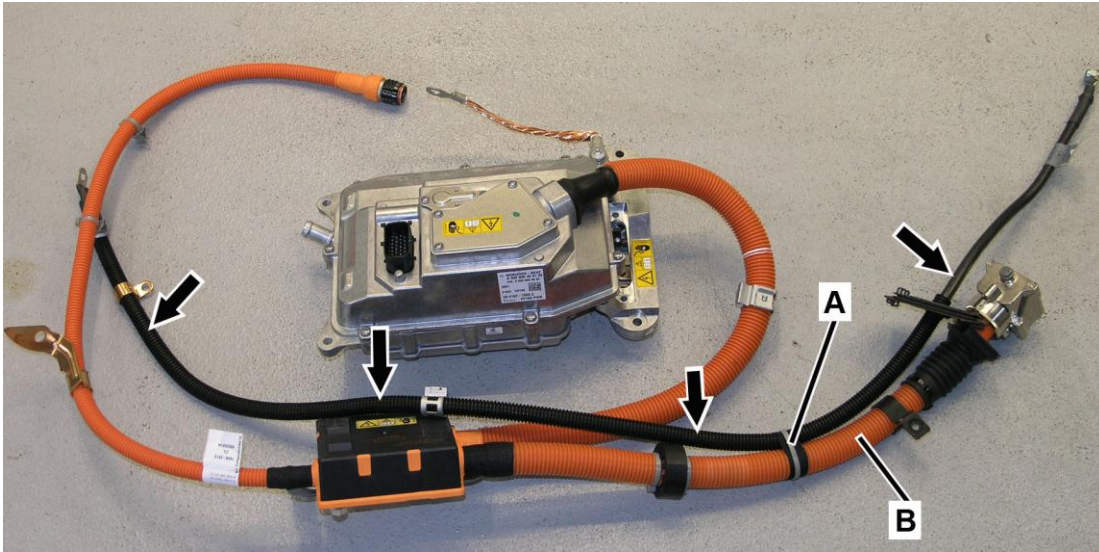

Figure 4
- Do not remove the existing alternator cable (arrows, Figure 4) from vehicle when removing power electronics module. Cut cable tie (A) to detach existing alternator cable (arrows) from old power electronics cable (B) and leave existing alternator cable (arrows) on vehicle
- Prior to installing **new** power electronics module, cut cable tie (A, Figure 4) and remove **new** alternator cable (arrows) attached to **new** power electronics module cable (B). The **new** alternator cable (arrows) does not get installed on vehicle.